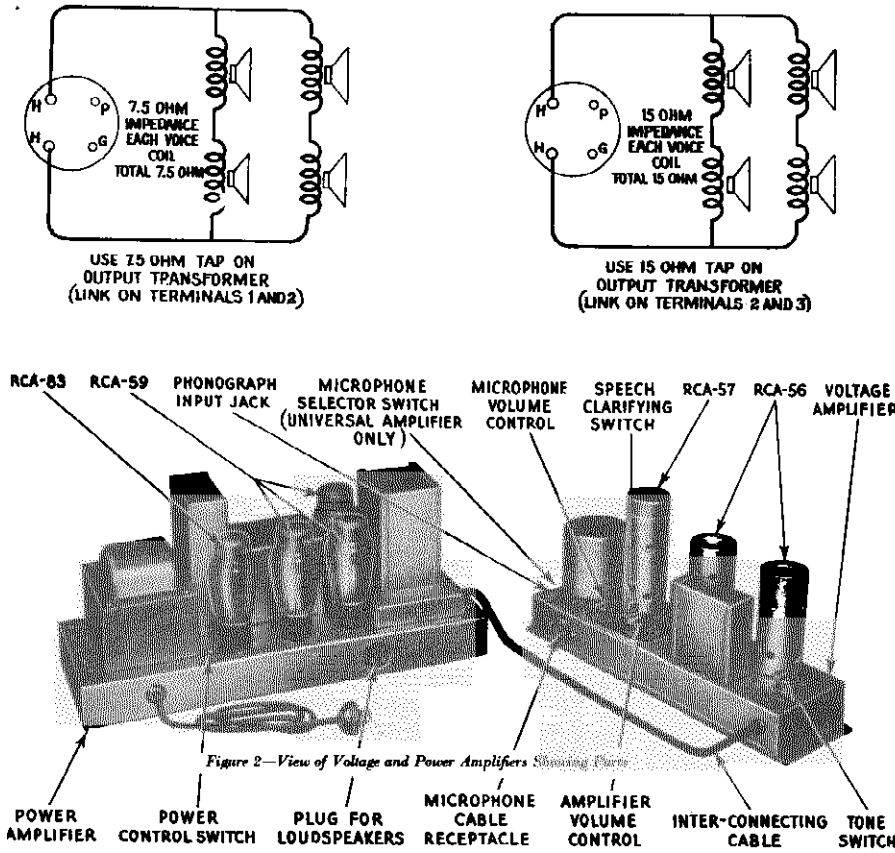

FIG. 3
4. Make connections between the loudspeakers and the four pole loudspeaker plug, furnished with the amplifier, as indicated in Figure 3. Insert the loudspeaker plug into the corresponding receptacle on the side of the power amplifier base.
- (c) If the Model PB89A1 power amplifiers are used, connect a set of loudspeakers to each power amplifier as shown in Figure 8. If the Model PB89B1 power amplifiers are used, connect a set of loudspeakers to each power amplifier as shown in Figure 3.